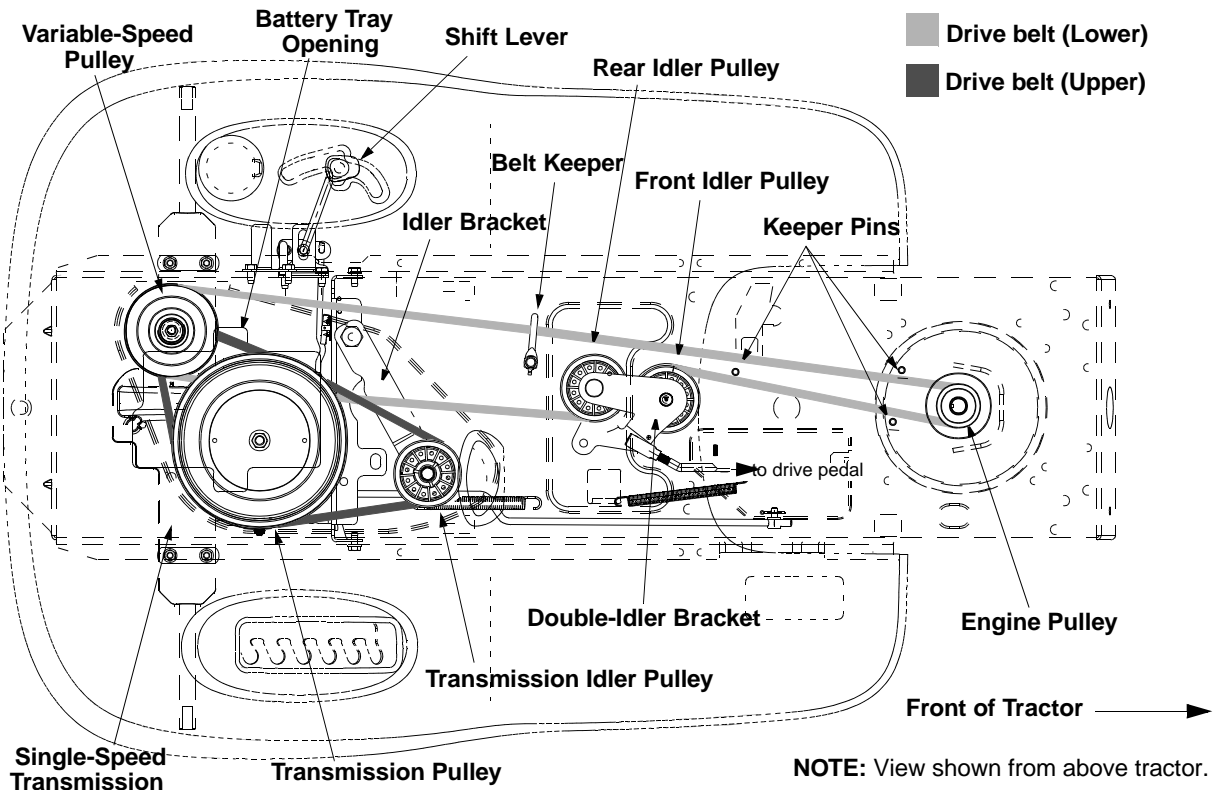

Figure 15
1. Locate the transmission idler pulley on the upper drive belt by looking through the battery tray opening. See Figure 15.
6. Reroute the new upper drive belt as shown in Figure 15.
1. Locate the variable-speed pulley through the battery tray opening. See Figure 15.
4. Remove the rear idler pulley from the double-idler bracket while unrouting the belt from around both the rear and the front idler pulley. See Figure 15.
6. Remove the drive belt by feeding it from both ends toward the front idler pulley on the double-idler bracket. See Figure 15.
7. Reassemble by following the above steps in reverse order. Reroute the new belt around the pulleys, belt keepers and keeper pins **exactly** as the old one was routed. Refer to Figure 15.